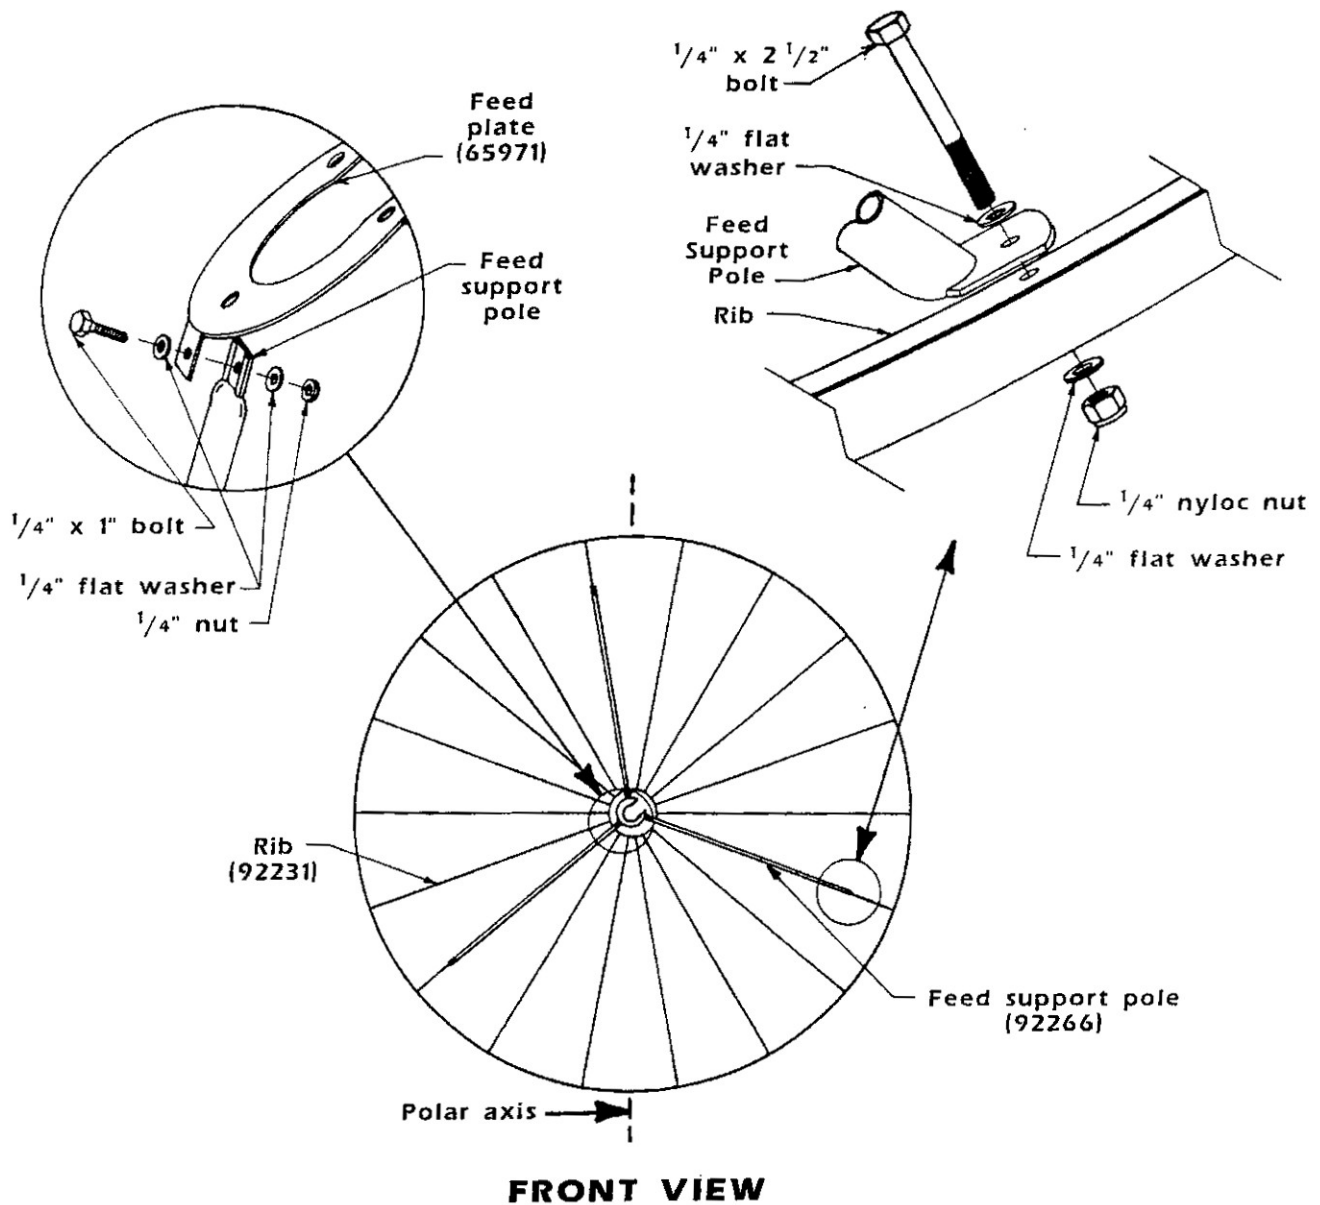

FIG. 15
1. Attach the three feed support poles provided to the three ribs with colored dots using three  $\frac{1}{4}$ " x  $2\frac{1}{2}$ " bolts, six  $\frac{1}{4}$ " flat washers and three  $\frac{1}{4}$ " nyloc nuts. (See Fig. 15)
2. Attach the feed plate to the three feed support poles, using three  $\frac{1}{4}$ " x 1" bolts, six  $\frac{1}{4}$ " flat washers and three  $\frac{1}{4}$ " nuts. (See Fig. 15)